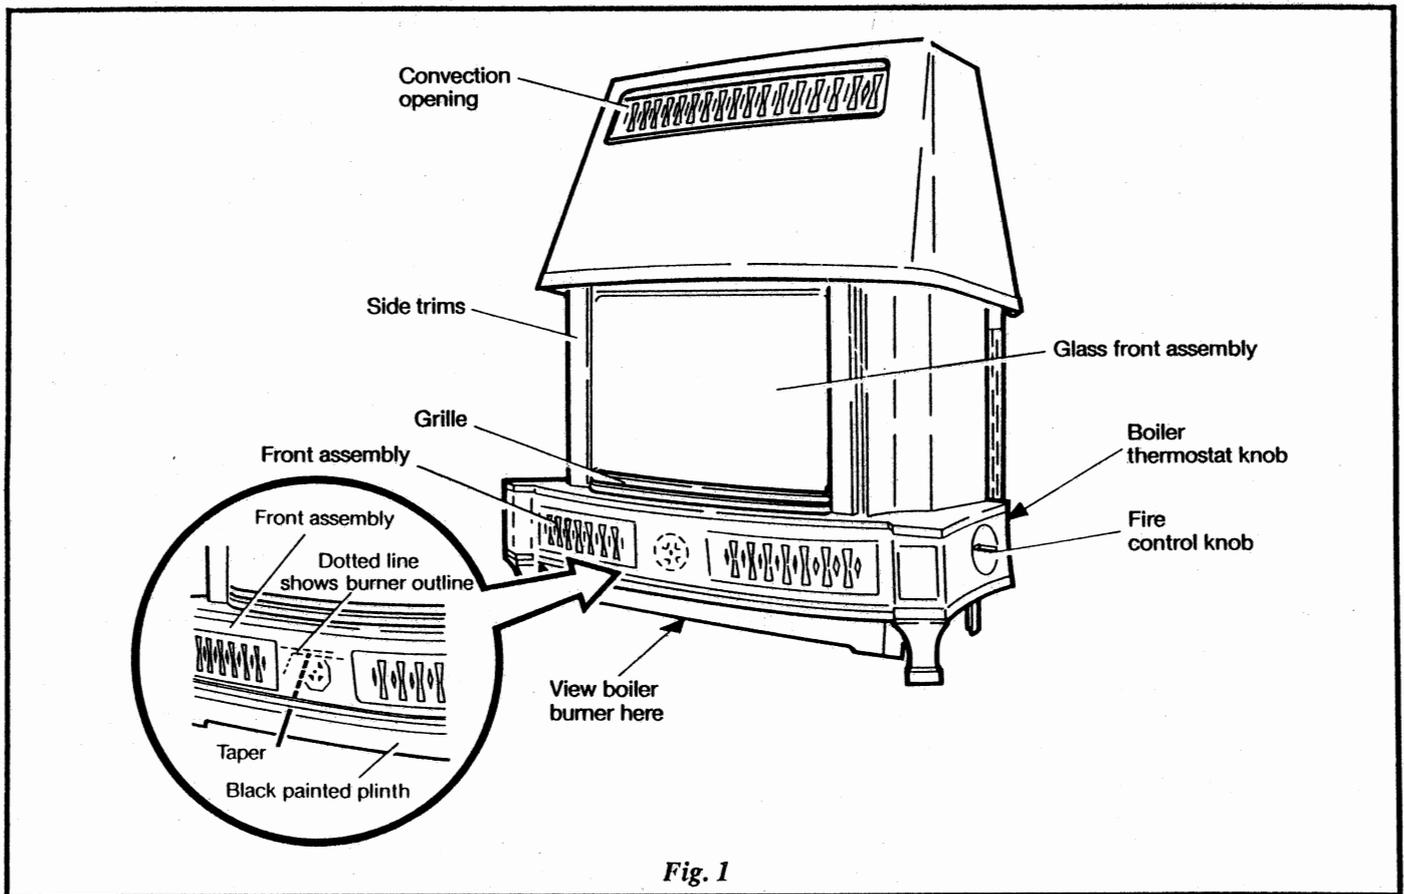

Fig. 1
See Fig. 1
The boiler will go through the automatic ignition sequence and the burner will light. The burner can be seen by looking under the fire at floor level in the direction of the arrow as shown in Fig. 1.
The fire is controlled by the control knob on the side of the case, see Fig. 1.
1. Insert the lighted taper towards the left hand side of the fire above the black plinth but below the front assembly, see Fig. 1. The lighted end of the taper should be as close as possible to the burner face.
1. Lift the grille away from the front of the glass front assembly. See Fig. 1.